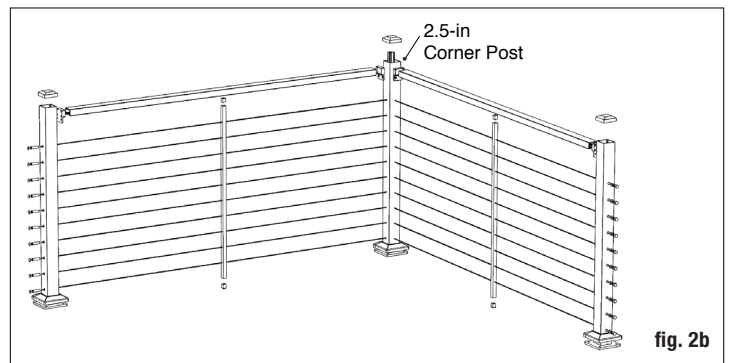
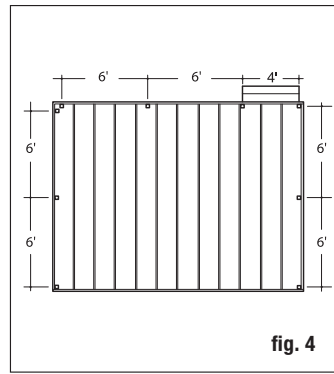

fig. 2b
fig. 4
**Step 1** Determine the layout and number of railing posts needed for your deck. Post spacing is 6' or 8' on-center. Cable posts are available pre-drilled for end, line and corner posts. Cable is available in lengths of 5', 10', 15', 20', 25', 30', 40' and 50'. Many layout options are possible. One tip is to start with the most visible run. It's the one on which you want the least interference with the view, so you can start from there and build around it. Corner applications: When taking cable through a corner, do not bend the cable past 45° at any time. When turning 90°, use a corner post (fig. 2b) or make a 2-step turn using a double corner post configuration (fig. 4), or stop the cable run and start a new run. Example: A 12' x 16' deck attached to a building with a 4' access opening on one side will require a total of nine posts (eight if using corner post).